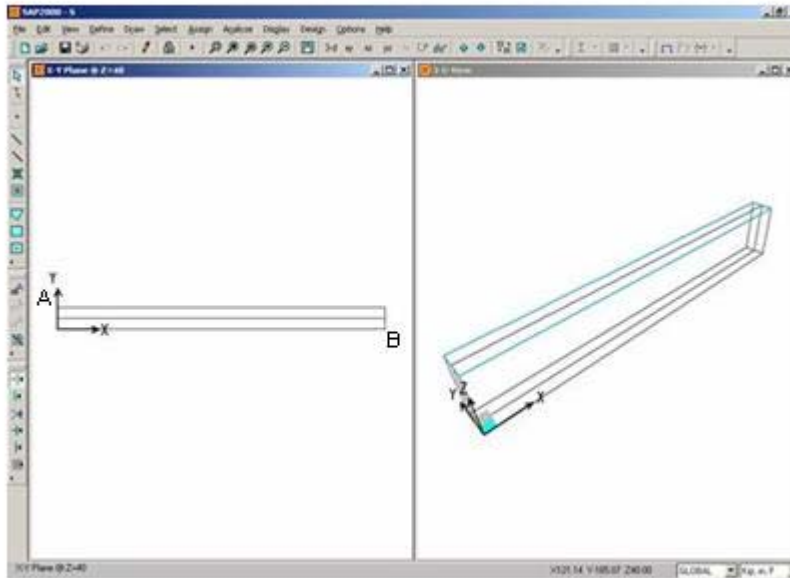

Figure S-1 Screen After Step 7
7. Click in the window entitled X-Y Plane @ Z=40 to make sure it is active. The window is highlighted when it is active. The screen appears as shown in Figure S-1.
9. Click on the point labeled “A” and then the point labeled “B” in Figure S-1 to draw an area object.